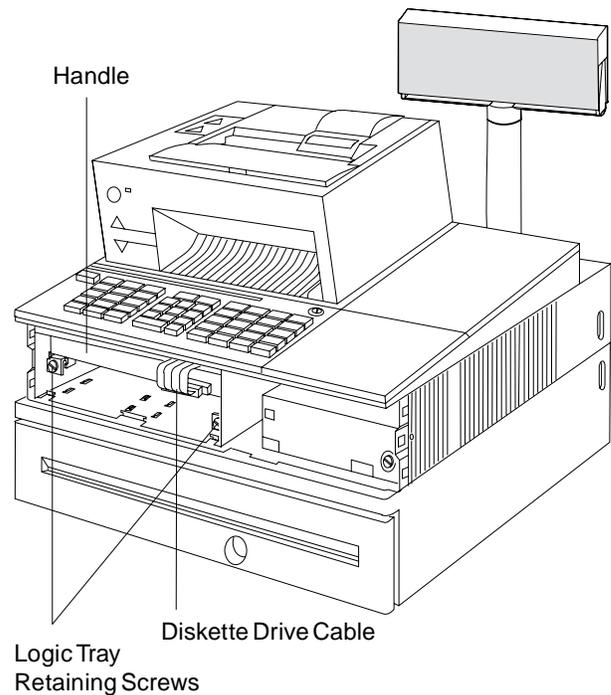

Figure 3-16. Logic Tray
7. Turn the retaining screws, located on each side at the front of the logic tray, counterclockwise approximately 2 1/2 turns. See Figure 3-16.